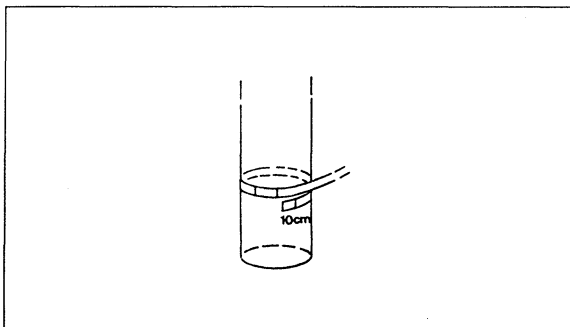

Fig. 3
4. Take the following measurements using the tape measure shown in fig. 3: